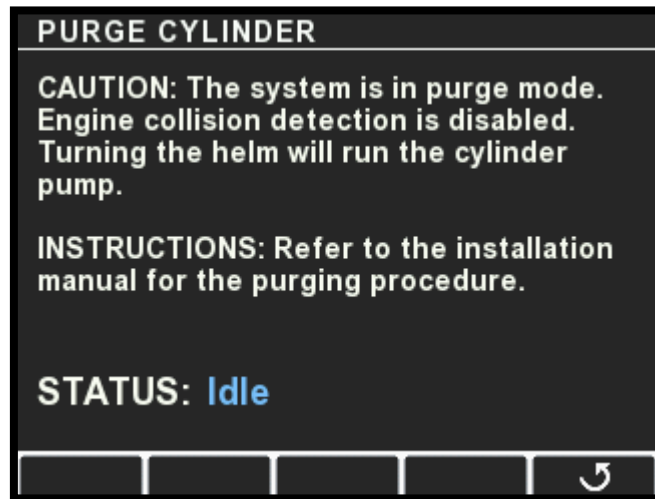

Figure 5-7.
8. Select the cylinder to purge and press > to enter Purge Mode. If you don't see the Purge Cylinder screen as shown in figure 5-7, cycle the system power and try again. The system will not enter Purge Mode if the helm has been turned since the ignition was turned on.